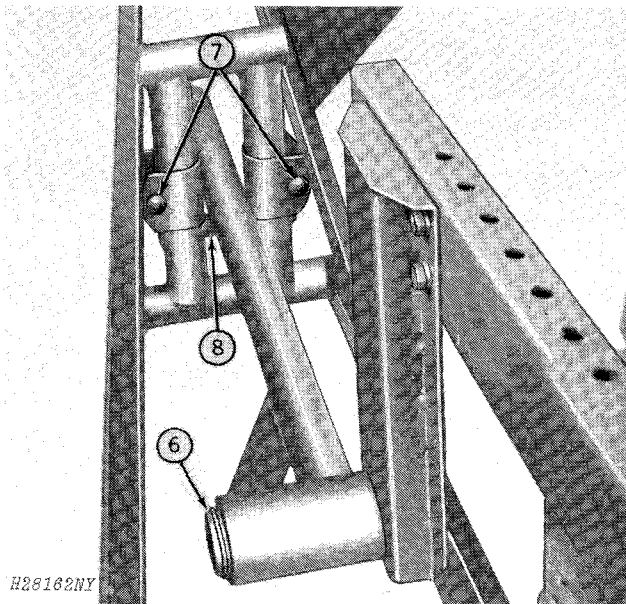

Fig. 70-Attaching Wear Plates
6. Coat shaft on outrigger bracket with multipurpose type grease. Secure outrigger assembly to outrigger bracket with snap ring (Fig. 70).
7. Attach two wear plates to each outrigger assembly with 5/16 x 2-1/2-inch round head bolts and self-locking nuts. Tighten self-locking nuts to 30 ft-lbs (40 Nm) torque (Fig. 70). Do not overtighten.
8. Hood outrigger assembly over tube in divider point (Fig. 70).
2. Drive combine forward until feeder house is in place (Fig. 70). Raise feeder house.